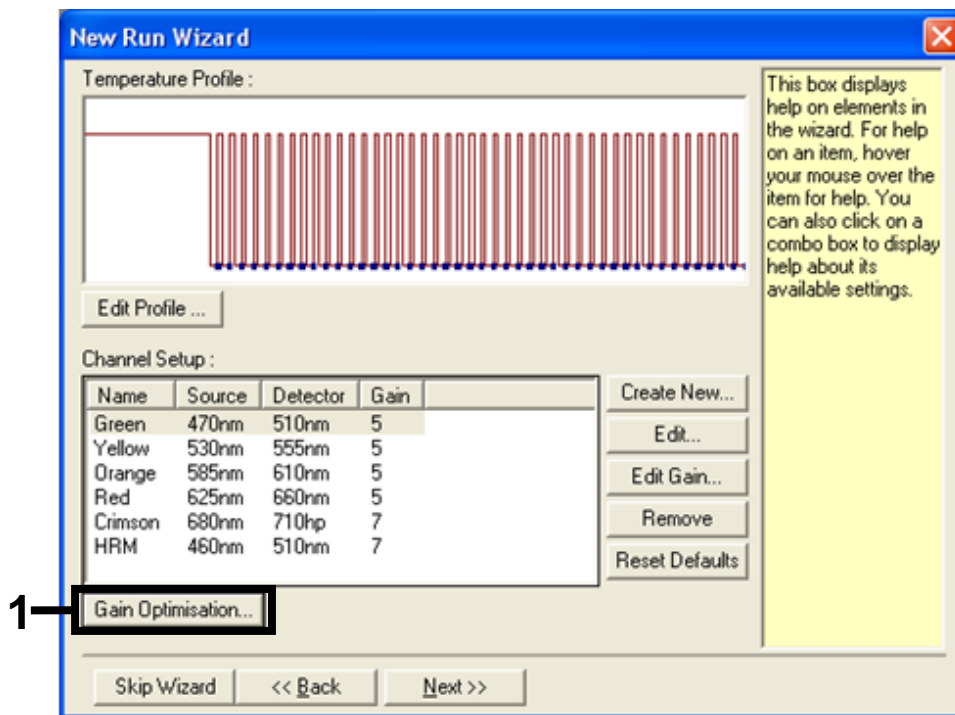

Figure 30. Gain optimization (1).
12. In the next dialog box, click the "Gain Optimisation" button (Figure 30)